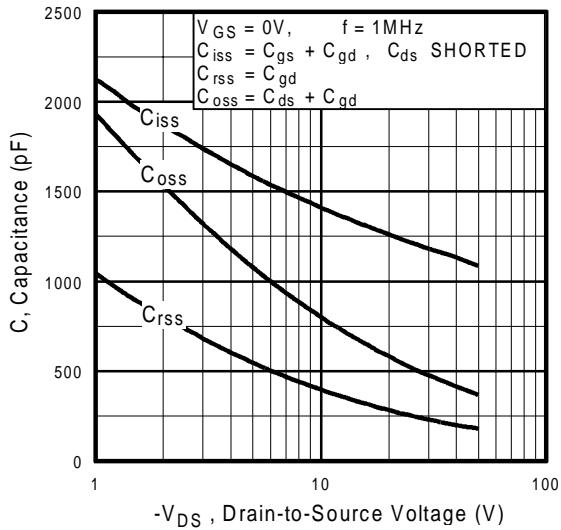

Fig 5. Typical Capacitance Vs.
| C_{rss} | Reverse Transfer Capacitance | — | 250 | — | | $f = 1.0\text{MHz}$, See Fig. 5 ⑥ |